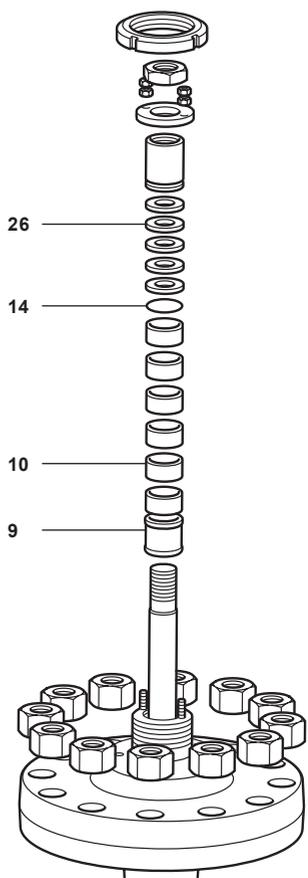

Fig. 16
5.4 Replacement of graphite gland packings (reference Figure 16)
- Remove the lock-nut from the stem (20), and withdraw the plug stem assembly (with cage on balanced versions).
- Withdraw the graphite packing (26) and discard. Remove all metal components, washer (14) and spacers (10) carefully noting how many components have been removed as it will differ on each valve size. Clean and examine these components replacing any that show signs of damage or deterioration.
- Clean the gland cavity and reassemble the gland components in the order shown in Figure 16.